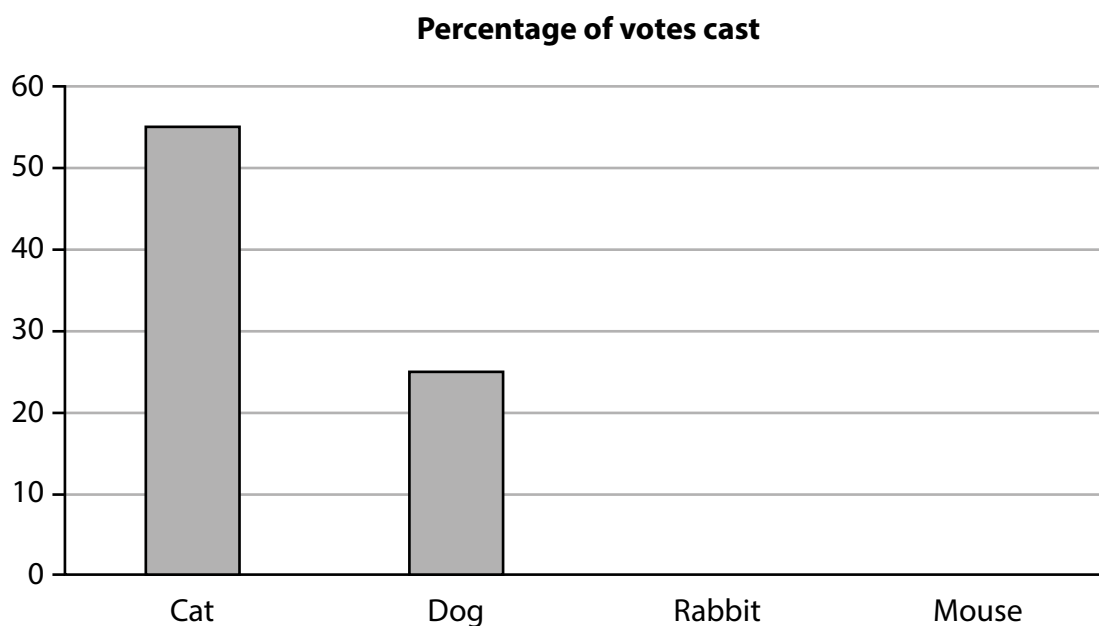

Figure 4
Figure 4 is a partly completed bar chart that shows the percentage of votes received for the Cat and the Dog.
- (ii) Complete the bar chart shown in Figure 4 to show the percentage of votes received for the Rabbit and the Mouse.